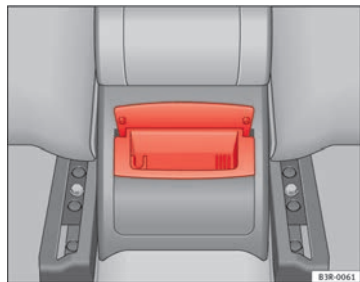

Fig. 123 Rear ashtray
- Take hold of the lid ⇒ fig. 123 and lift out the ashtray.